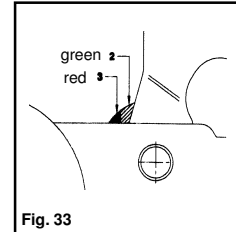

Fig. 33
- 2) If a green indicator is visible (on the handle), then the AKS 2004 is in a new condition or the pads and towball are within the permissible limits (Fig. 33/Item 2).